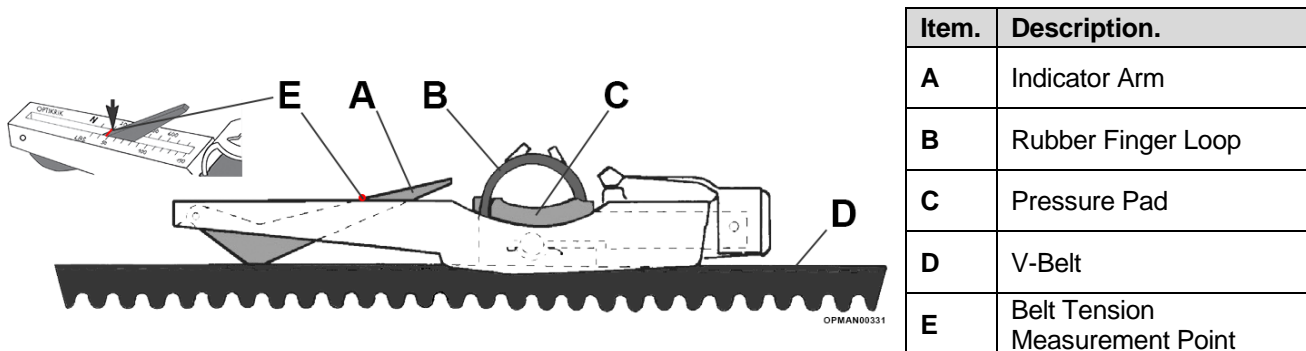

Figure 5.35 – Optikrik Belt Tension Gauge & Components
To correctly tension belts using the Optikrik II with reference to Figure 5.35:
- 5.4.1.1 Position the Optikrik on one of the belts in the middle of a length as shown in Figure 5.35. Take care to ensure that the indicator arm (A) is pushed down into the gauge body. Align the gauge so that its body is parallel with the sides of the belt.